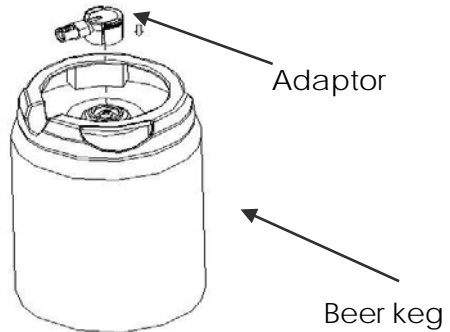

Figure 8
2. Install the new adaptor on the beertender and make sure that the hose is well connected. (Figure 8 and 9)